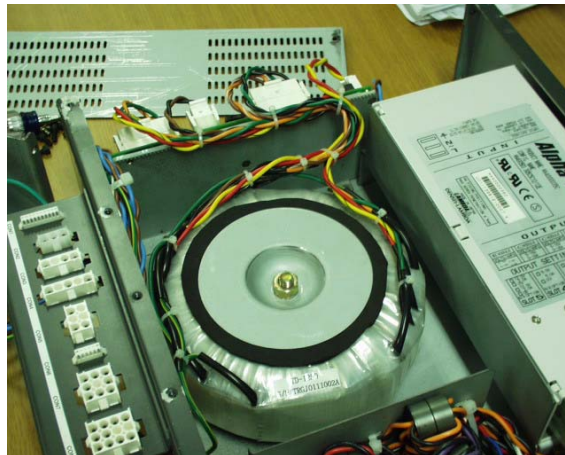

Figure 8-133 Removing the Transformer
- 7.) Unscrew one nut in the Center top of the Transformer. Refer to Figure 8-133 on page 8-82 .